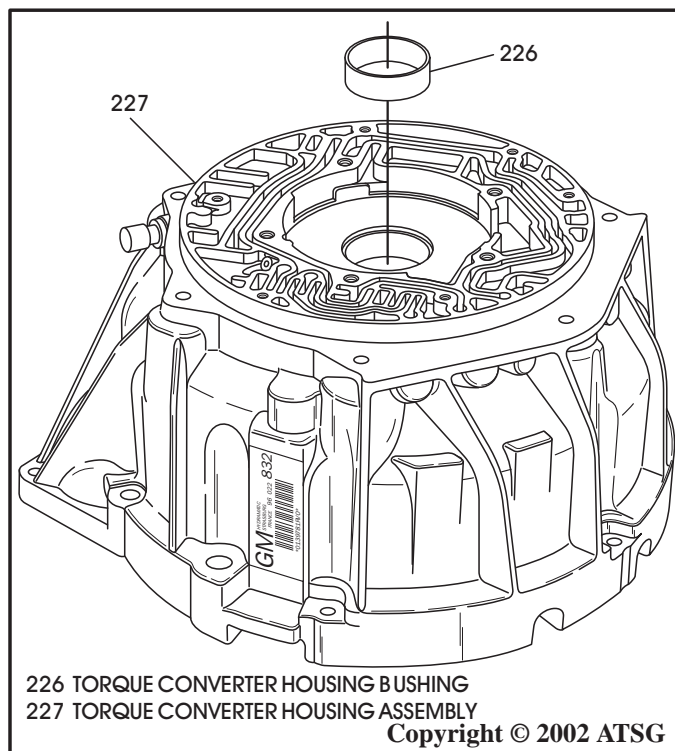

Figure 62
17. Install new bushing as necessary in converter housing, as shown in Figure 62, using proper size bushing driver.